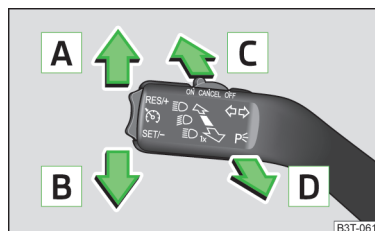

Fig. 36
Lever positions \gg Fig. 36
- Place the control lever into position **A** or **B** as far as it can go » Fig. 36 on page 49 - the parking light on the right/left-hand side of the vehicle is switched on.